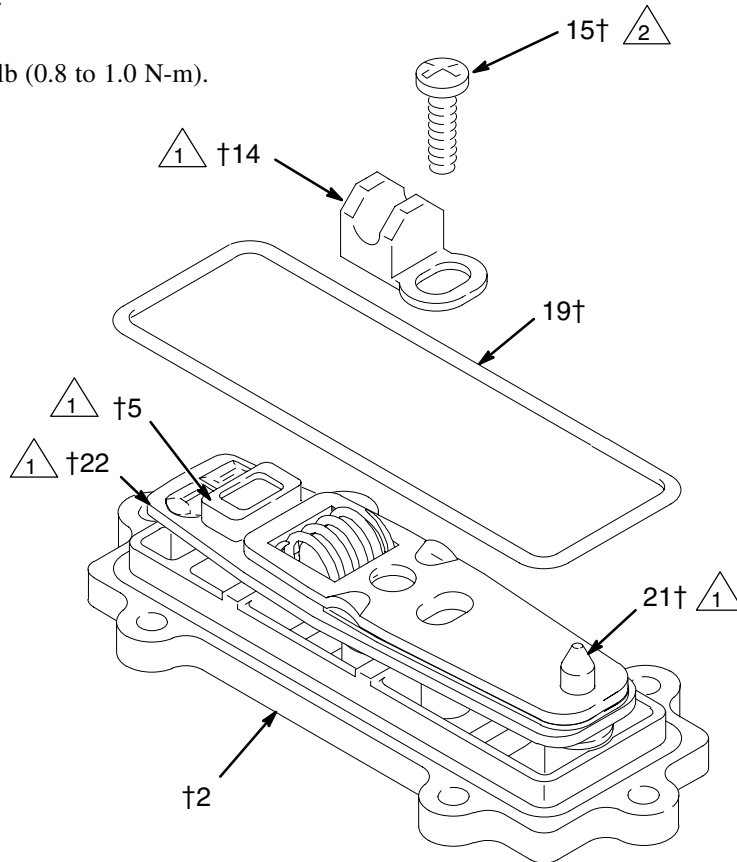

Fig. 14
8. Grease the inside surfaces of the shift saddle (14) and install it as shown in Fig. 14. Hold the link assembly firmly in place and install the screw (15). Torque to 7 to 9 in-lb (0.8 to 1.0 N-m). Install the o-ring (19) on the cover (2).